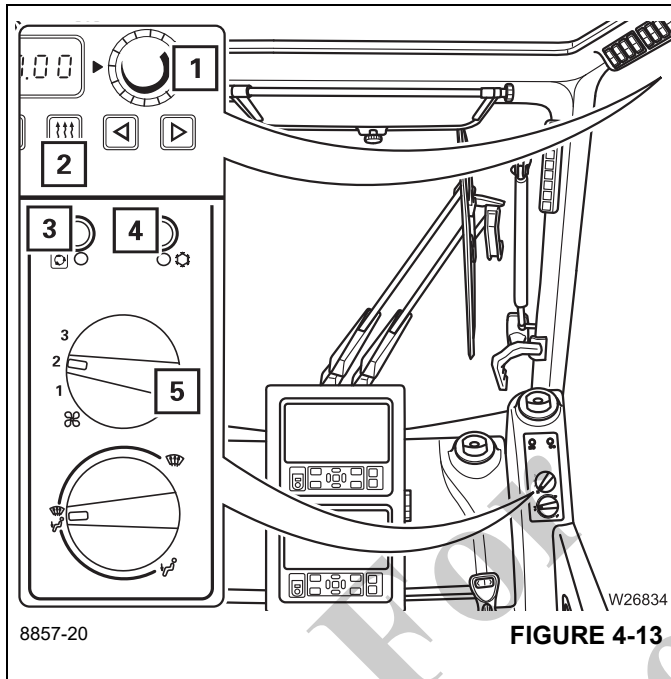

FIGURE 4-13
Press button (2), (Figure 4-13) once, heating off
Switch the air conditioning on – press button (4), (Figure 4-13) – the button will illuminate.
Press the button (4), (Figure 4-13) – button lamp goes out,